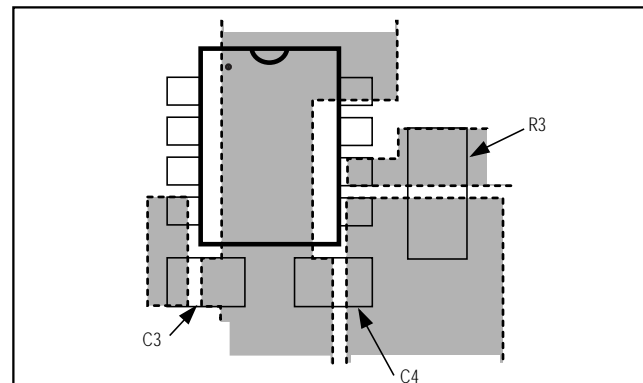

Figure 8. Recommended Placement and Routing of R3, C3, and C4
- 1) Place the current-sense resistor (R3) within 0.2in. (5mm) of the MAX774, directly between the V+ and CS pins. The V+ and reference-bypass capacitors (C3 and C4) must be placed as close as possible to their respective pins. Figure 8 shows the recommended layout and routing for these components.